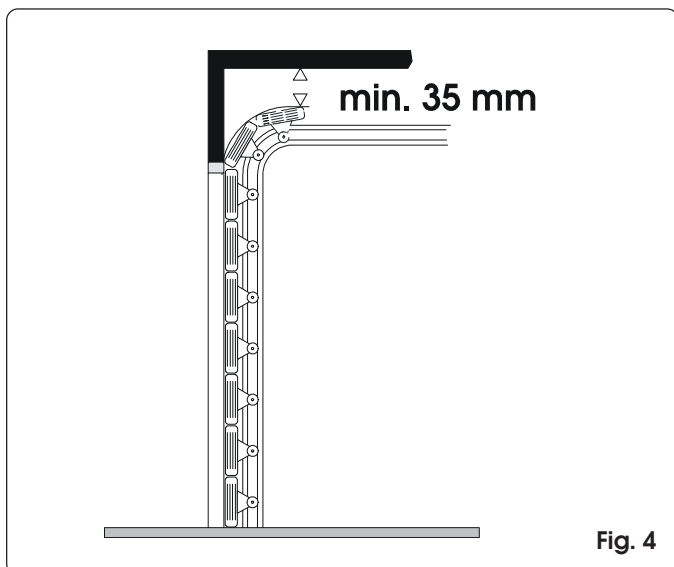
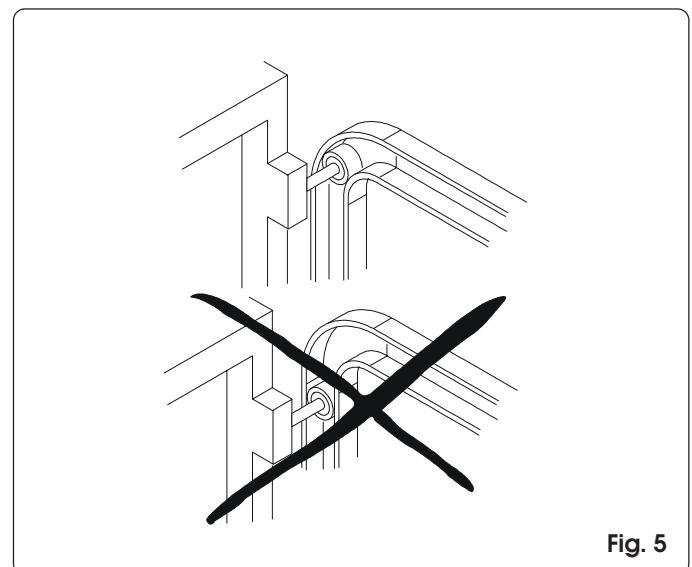

Fig. 4
Fig. 5
Remove the door's mechanical closing devices so that the door is closed by the automatic system. Check if there is an efficient earth plate for electrical connection of the operator. Make sure there is a clearance of at least 35 mm between the ceiling and the highest sliding point of the door (fig. 4). Check if the upper guide roller of the sectional door is in the horizontal part of the guide while the door is closed (fig. 5).
- 2) Draw a horizontal line on the lintel, corresponding to the max. height reached by the door during movement (see fig. 4).